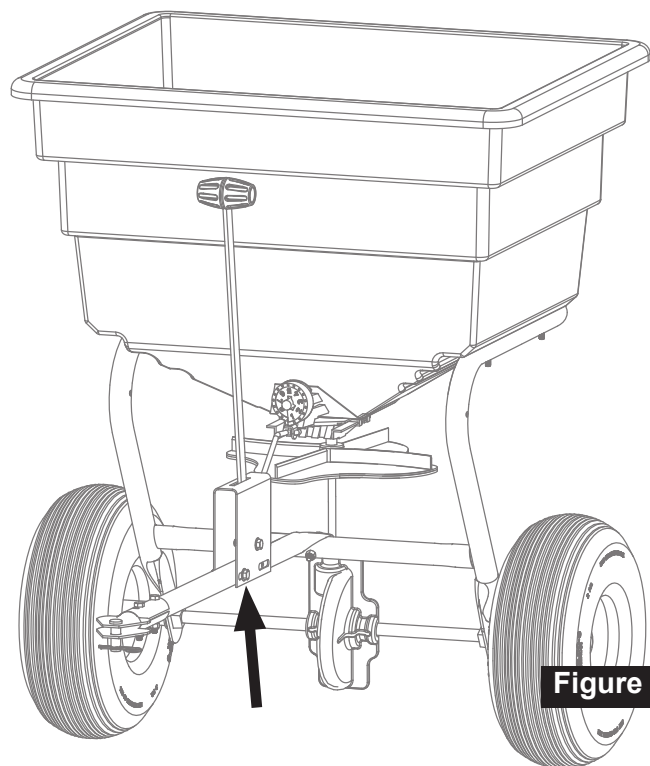

Figure 12
17. Install front of control lever assembly onto Tow Bar with 1/4-20 x 1-3/4" Bolt, 1/4" Washer (one on each side of tow bar) and 1/4" Nylon Insert Locknut, Figure 12. Do not fully tighten at this point.